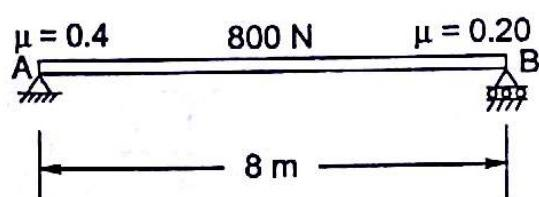

Fig. 6.20
6.2 A bar of weight 800 N, 8 m long rests on a stationary support A and on a roller support at B, as shown in Fig. 6.20. The static coefficient of friction at A is 0.4, while the dynamic coefficient of friction of roller support B is 0.20. If support B is moved at constant speed towards left, how far does it move before the bar begins to move.